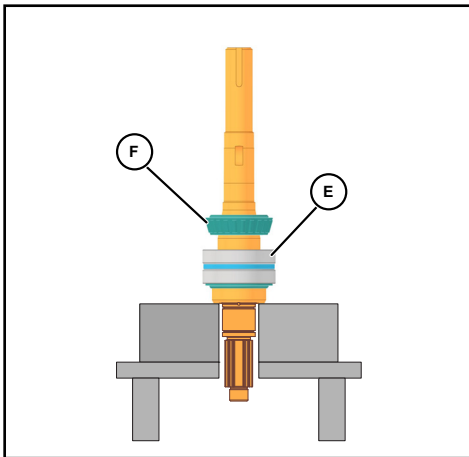

Figure 81 - Install Upper Cup & Upper Cone
7. Place the upper cup (Figure 81, item E) on top of the outer spacer.
8. Lubricate the remaining upper cone and roller assembly (Figure 81, item F) with oil or grease and slip it over the shaft with the roller radius facing up. Press it onto the shaft and into the upper cup.